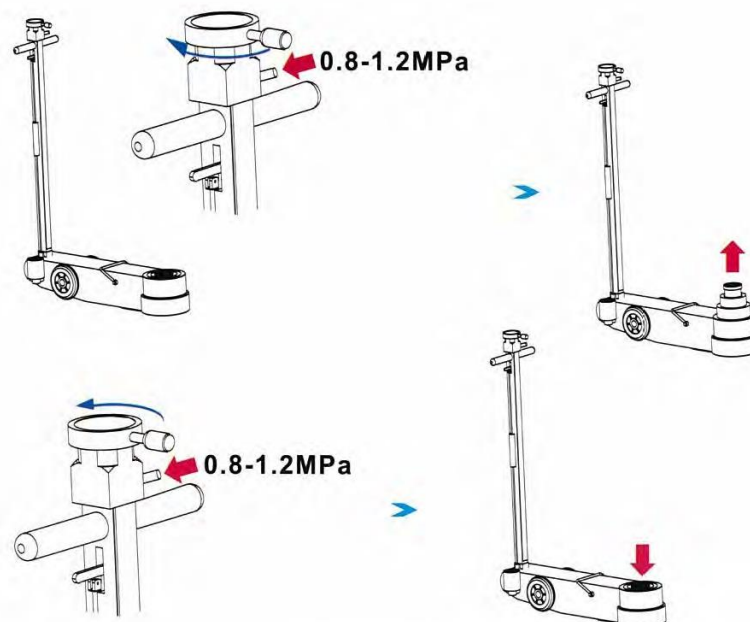

Figure 7 – Advancing & Lowering the Load
6.3.1 Move the control valve handle to the UP position to advance the cylinder (Fig. 7). Once the load has been raised to the desired height, release the control valve handle.
6.3.2 Move the control valve handle to the DOWN position to retract the cylinder (Fig. 7). Once the load has been lowered to the desired height, release the control valve handle.